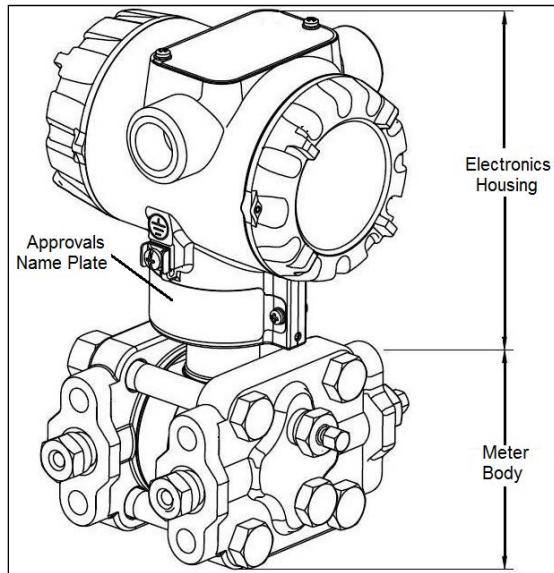
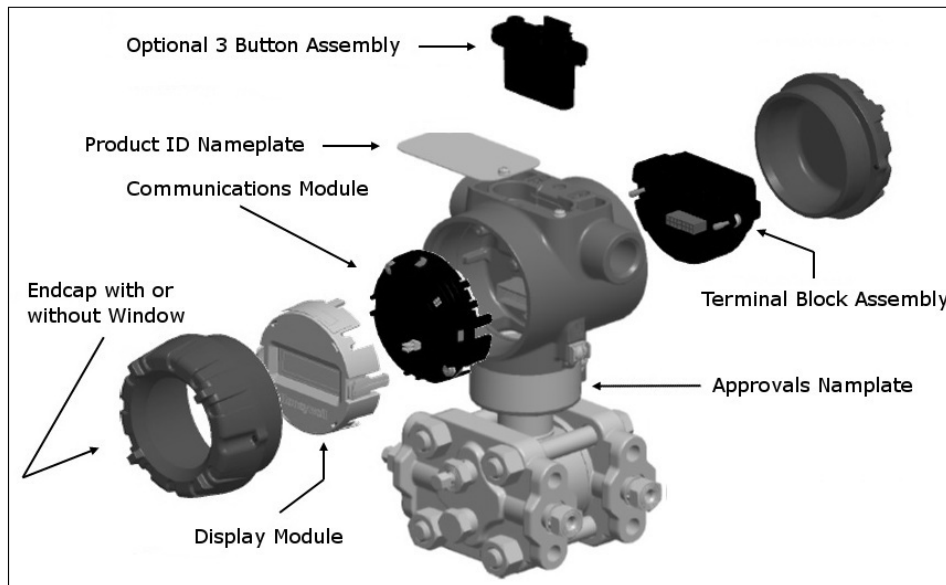
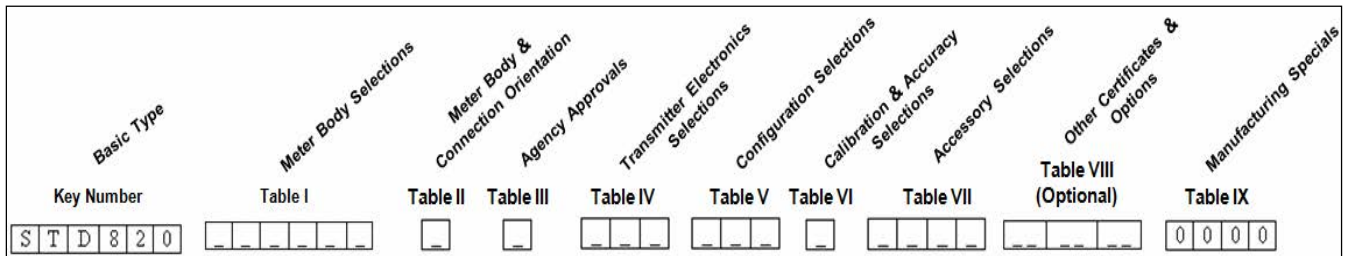

Figure 1 – ST 700 Major Assemblies
Figure 2 – Electronics Housing Components
Figure 3 –Typical Atmospheric or Gauge Pressure Transmitter Name Plate Information
As shown in Figure 1, the ST 700 is packaged in two major assemblies: the Electronics Housing and the Meter Body. The elements in the Electronic Housing respond to setup commands and execute the software and protocol for the different pressure measurement types. Figure 2 shows the assemblies in the Electronics Housing with available options.
The Transmitter nameplate mounted on the top of the Electronics Housing (see Figure 2) lists the model number, physical configuration, electronics options, accessories, certifications, and manufacturing specialties. Figure 3 is an example of a typical Differential Pressure (DP) or Gauge Pressure (GP) or Atmospheric Pressure (AP) Transmitter name plate. The model number format consists of a Key Number with several table selections. The Differential Pressure (DP), Absolute Pressure (AP), and Gauge Pressure (GP) name plates are essentially the same. However, the DP provides one additional entry (7 vs. 6 characters) in the Meter Body Selections (Table I) to accommodate the static pressure rating.
An “approvals” name plate is located on the bottom of the Electronics Assembly; see Figure 1 for exact location. The approvals name plate contains information and service marks that disclose the Transmitter compliance information. Refer to Appendix C of the *ST 700 SmartLine Transmitters User’s Manual*, document number 34-ST-25-44 for details.
Zero and Span adjustments are possible in new generation ST 700 SmartLine Pressure Transmitters by using the optional three-button assembly located at the top of the Electronic Housing (see Figure 2). However, certain capabilities are limited in the following configurations: